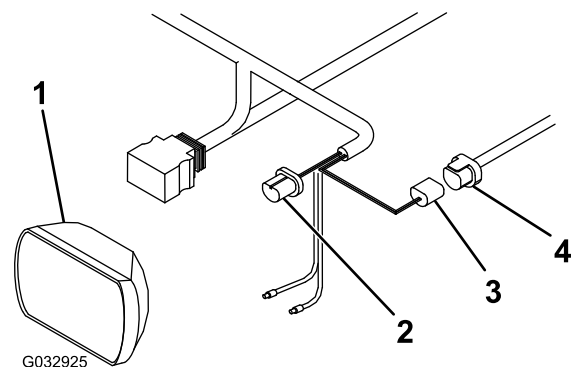

Figure 19
1. Disconnect the wire harness plug from the back of the left vehicle headlight (Figure 19).
2. Connect the blue plug from the long wire harness to the back of the left vehicle headlight (Figure 19).
3. Connect the black plug from the long wire harness to the previously disconnected plug on the vehicle wire harness (Figure 19).